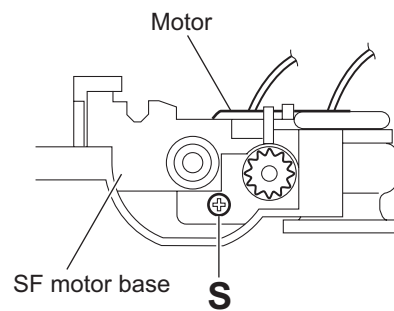

Fig.18
- (3) Remove the screw **S** attaching the motor to the SF motor base. (See Fig.18.)
- (4) Take out the motor from the motor base.